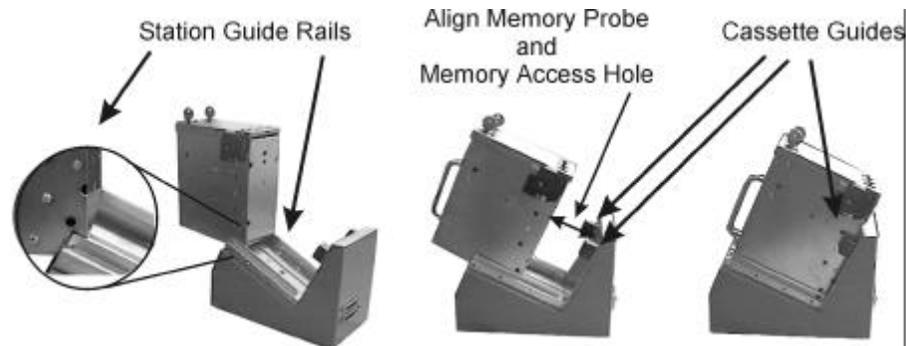

Figure B-3 Docking the Cassette
- Position the new EPROM in the socket as shown in Figure B-3. Make sure the notch matches the silk screen on the board.
Each docking station has a unique address assigned and set at the factory during manufacture. If it is necessary to reset or verify an address, refer to Figure B-3 and Table A-1. The Figure B-3 shows the location of the DIP Switch Bank on the Microprocessor Board and indicates the ON and OFF switch positions. Table 1 shows the DIP Switch combinations to set each of the sixteen addresses.
1. When the Green Indicator lights, place the Cassette on the guide rails as shown in Figure B-3. Slide it into the upload position shown. For proper upload to start, the cassette must: